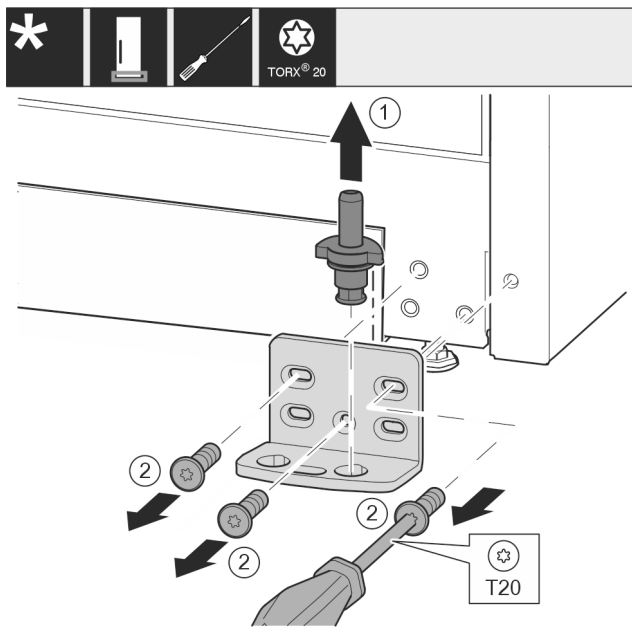

Fig. 15
- Pull the bearing bolt Fig. 15 (1) out upwards completely.
- Use screwdriver to unscrew the screws Fig. 15 (2) and remove the swap bearing block.